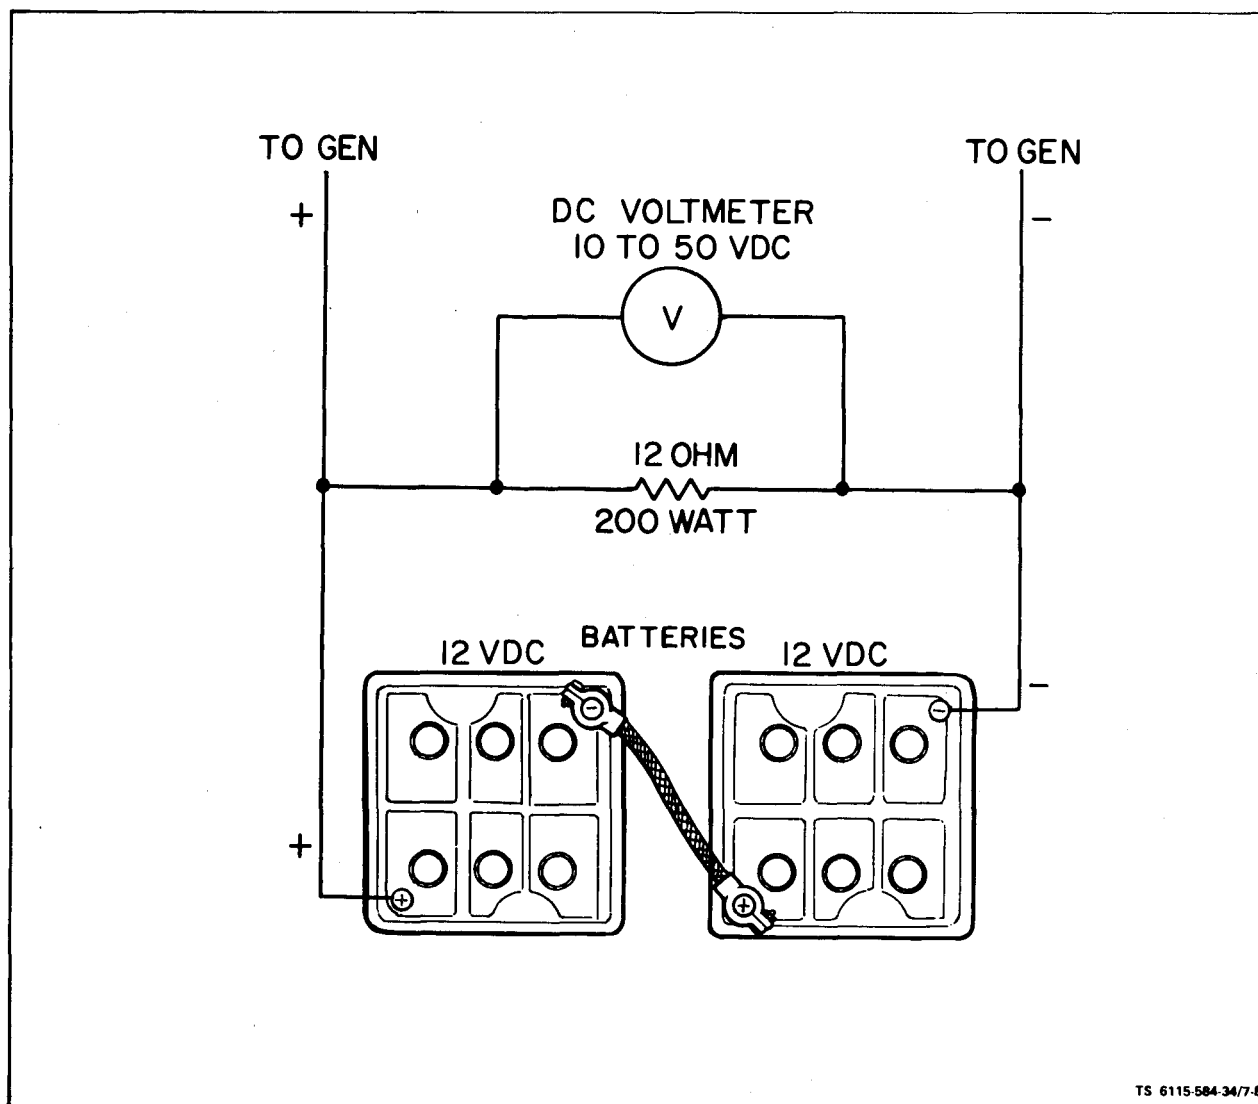

Figure 7-8. Resistively Loading the Batteries
(1) Load the batteries with a 12 ohm, 200 watt resistor (see figure 7-8). Run the set at 60 Hz, 1800 RPM. The charge rate should be between 6.5 and 10 amperes.
(2) With generator running (60 Hz), disconnect batteries leaving 12 ohm resistor load in circuit to generator. The alternator should provide a dc voltage between 24 and 28.5 volts.